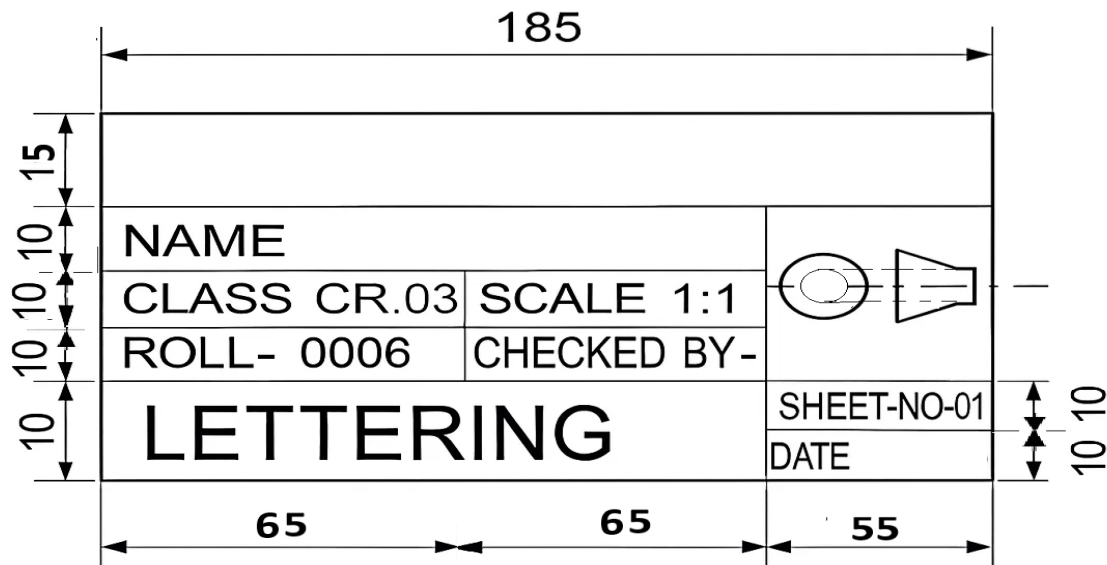

Fig. 1.2: Example of Title Block
- The size and layout of the title block follow standardized guidelines to ensure consistency (Fig.1.2).